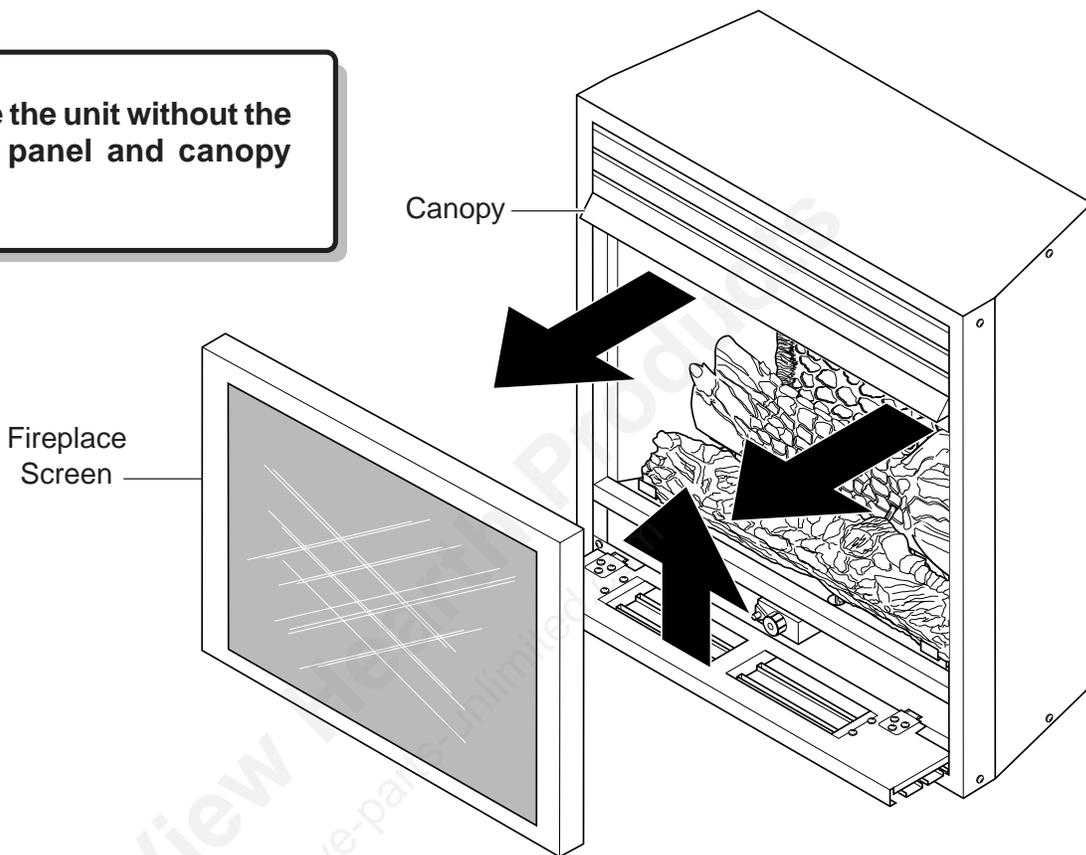

Figure 14 - Removing Fireplace Screen Frame Panel
3. Remove fireplace screen (*See Figure 14, page 14*) and logs.
Removing fireplace screen frame panel by pushing screen frame panel up and out. Refer Figure 14.
Ensure that minimum clearances shown in *Figures 14 and 15* are maintained. Left and right clearances are determined when facing the front of the firebox.